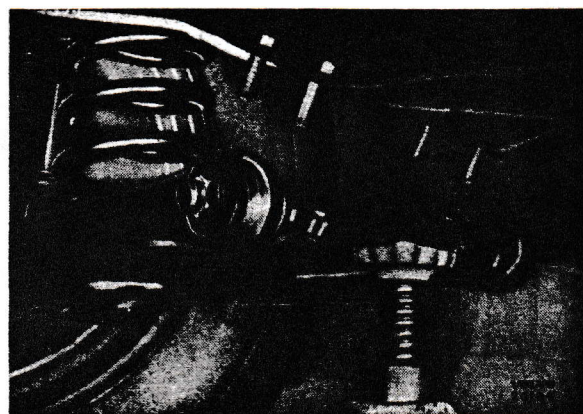

Fig. 22. Removing lower control arm
2. Place the spring in position with the straight end downwards. Move up the control arm pin into position with the help of a jack, see Fig. 22. Secure the pin and lock with split pins.